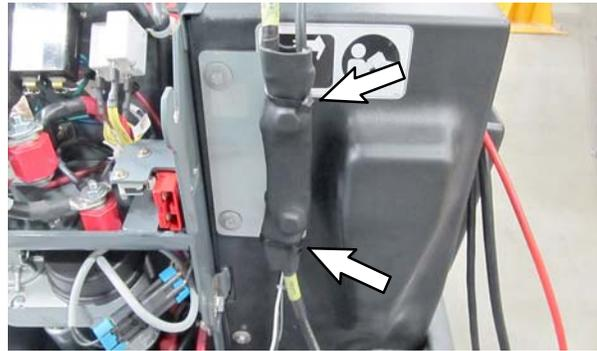

Fig. 11
- Use the two wire ties (6) on the shunt bracket (7) to secure the shunt (8) and the telemetry harness (16) battery connector to the shunt bracket. (Fig. 11)